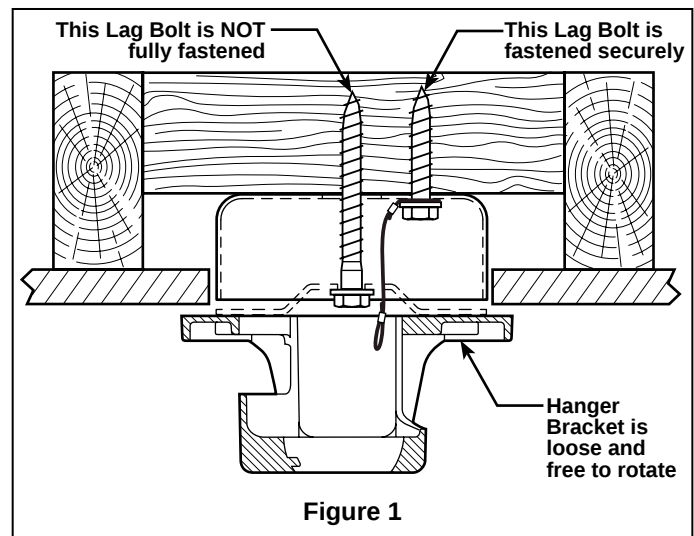

Figure 1
3. Separate and untwist the three motor leads and safety cable. Route the motor leads and safety cable through the bottom end of the extension pole as shown (Figure 1).
1. Attaching Ceiling Support Cable (Figure 1): Drill $\frac{1}{4}$ " pilot hole through one of the four corners of the junction box, into the ceiling joist or structural member. Securely attach the ceiling support cable with $\frac{3}{8}$ " x 2" lag bolt and flat washer.
NOTE: Ceiling support cable must be fastened between flat washer and junction box with 2" lag bolt (Figure 1).
2. Preliminary Hanger Bracket Attachment (Figure 1): Drill $\frac{1}{4}$ " pilot hole through the center of the junction box, into the ceiling joist or structural member. Loosely attach hanger bracket to the ceiling structure using $\frac{3}{8}$ " x 5" lag bolt and flat washer. **DO NOT FULLY TIGHTEN THE LAG BOLT YET!** Hanger Bracket should be free to rotate.